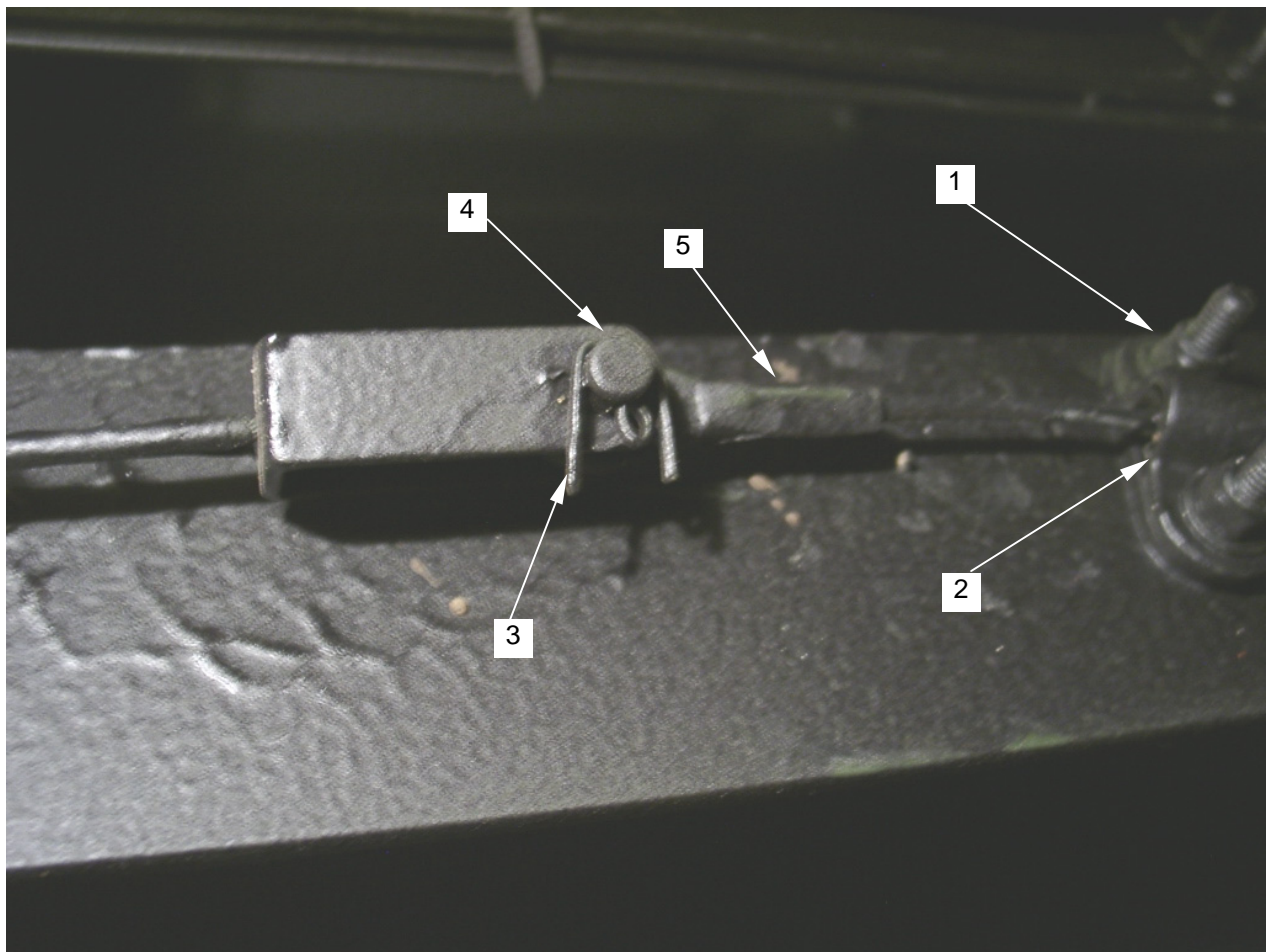

Figure 11. Cable Clamp and Clevis
4. Loosen and remove cable clamp mounting nuts (**figure 11, item 1**).
5. Remove cable clamp (**figure 11, item 2**).
6. Remove cotter pin (**figure 11, item 3**) and retaining pin (**figure 11, item 4**) attaching cable to clevis (**figure 11, item 5**).
8. Install new cable on clevis (**figure 11, item 5**) and fasten with retaining pin (**figure 11, item 4**) and cotter pin (**figure 11, item 3**).
9. Install cable clamp (**figure 11, item 2**) and fasten with mounting nuts (**figure 11, item 1**).